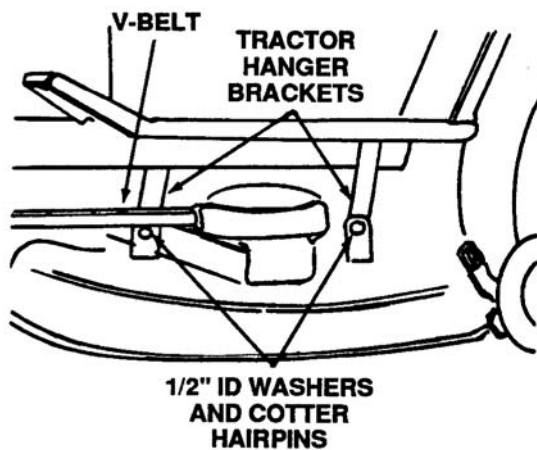

Figure 8-12. Location of Hanger Brackets
10. Attach four tractor hanger brackets to the deck with four 1/2 inch ID washers and four medium cotter hairpins. The left front tractor hanger bracket goes through the center of the V-belt. Attach the rear hanger brackets first, then the front hanger brackets. See Figure 8-12.